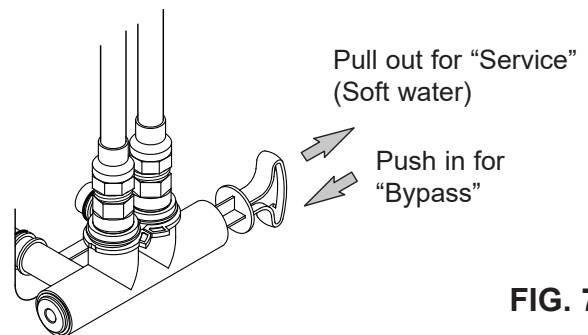
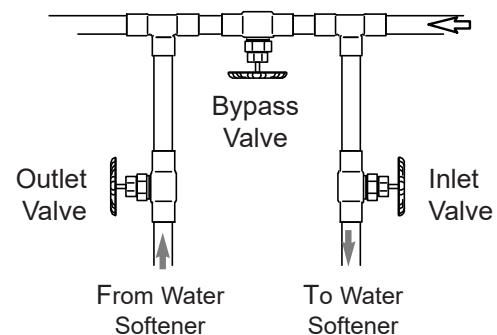

FIG. 7
FIG. 8
Always install either a single bypass valve (provided), as shown in Figure 7, or, if desired, parts for a 3 valve bypass system (not included) can be purchased and assembled, as shown in Figure 8. Bypass valves allow you to turn off water to the softener for maintenance if needed, but still have water in house pipes. Pipe fittings must be 3/4" minimum.
CAUTION: The house cold water pipe (metal only) is often used as a ground for the house electrical system. The 3-valve bypass type of installation, shown in Figure 8, will maintain ground continuity. If you use a plastic bypass valve at the unit, continuity is broken. To restore the ground, do the following:
2. Place the single bypass valve or 3 valve bypass in "bypass" position. See Figures 7 & 8.